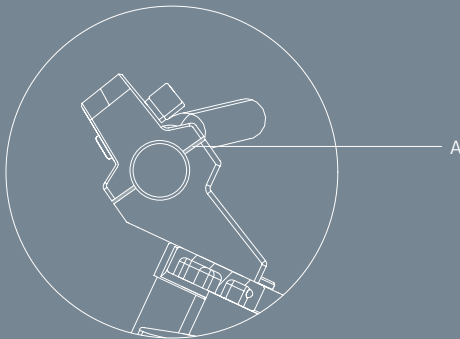

Fig. 1
4. Ensure to tighten the upper and lower bolts equally. Check that the gap (A) between the upper and lower stem is equal. See Fig 1.